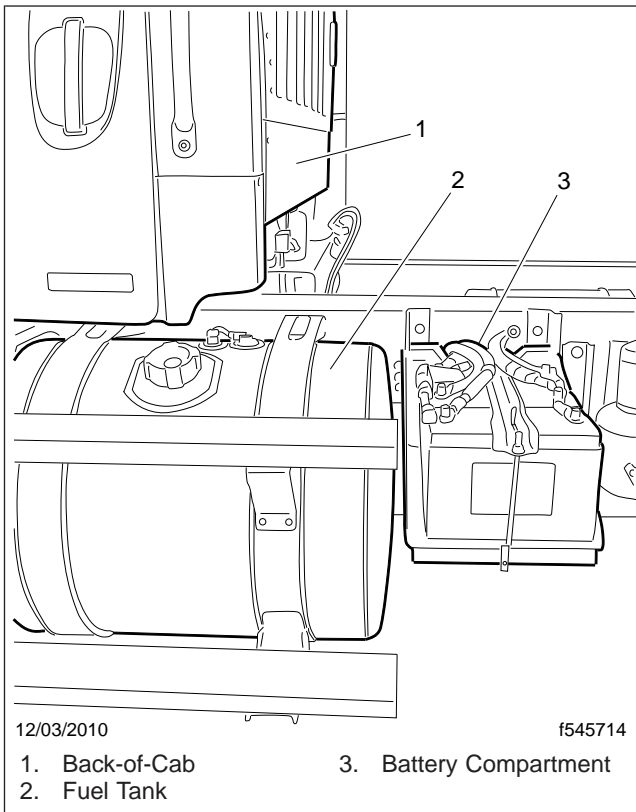

Fig. 24.4, Standard Battery Compartment Location
2. Remove the battery box cover. See Fig. 24.4 for the standard battery compartment location.